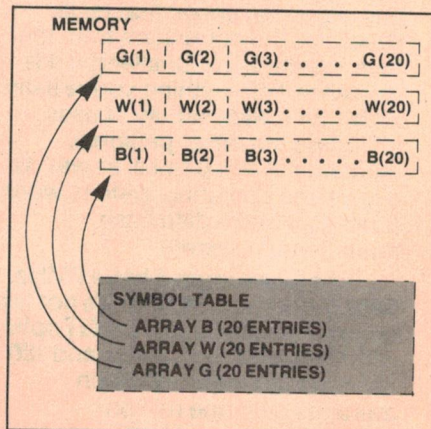

Figure 2. Three arrays — but there's an easier way ...
Either way will set aside three lots of 20 variables (see Figure 2). This works in exactly the same way as with C(20) in Figure 1.